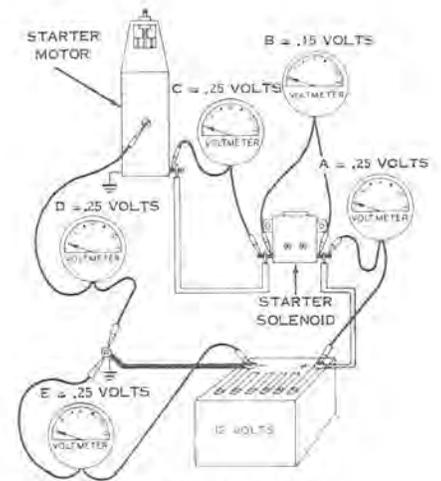

Figure 6-34
- By making a systematic check from the positive battery terminal, through the starting circuit and back to the negative battery terminal, any component or electrical connection having excessive resistance, thus causing high voltage drop and subsequent hard starting, can be pinpointed (see Figure 6-34).